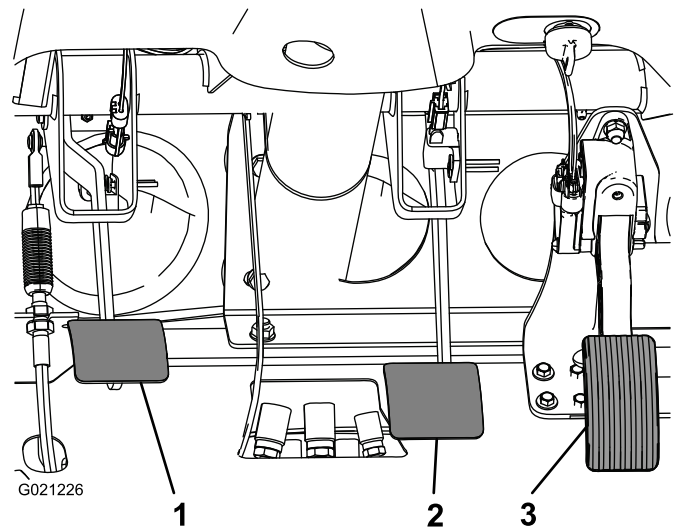

Figure 63
2. Lift up on the brake pedal (Figure 63) until it contacts the frame.
3. Loosen the jam nuts securing the yoke to the master cylinder shaft (Figure 63).